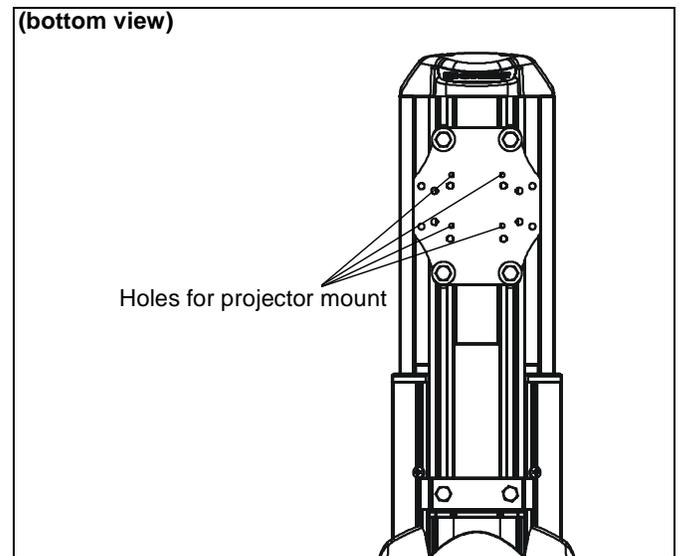

Figure 16
1. Line up mounting holes on projector mount (H) with corresponding holes on mounting plate. (See Figure 16)